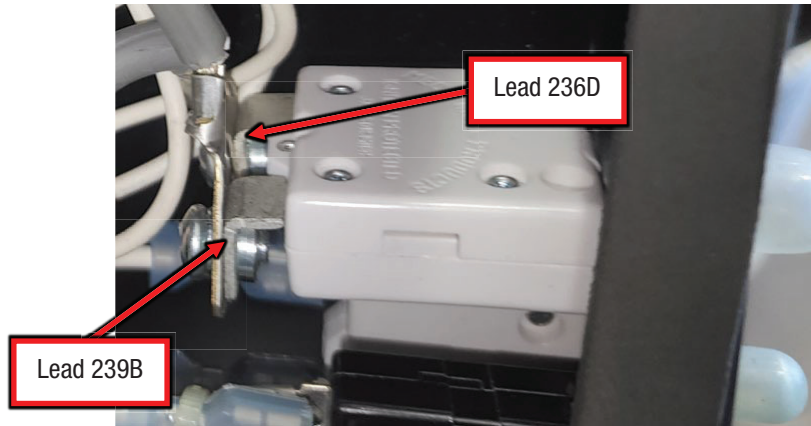

Figure F.2
A.2. Label and disconnect the following connections on CB5, refer to Figure F.2.